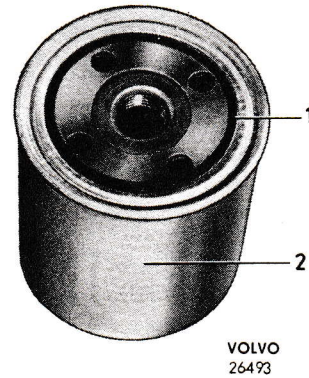

Fig. 60. The oil cleaner ready for fitting
2. Smear oil on the rubber gasket for the oil cleaner (1, Fig. 60) and make sure that the contact surface for the oil cleaner is free from dirt. A coating of oil also ensures that the gasket slides into better contact with the sealing surface. Screw the cleaner on by hand until it just touches the block.